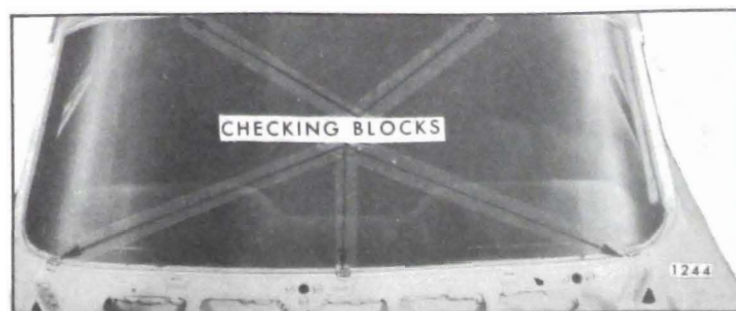

Fig. 3-14—Windshield Glass Checking Blocks
3. Install five windshield checking blocks J-8942 or equivalent (Fig. 3-14) to pinchweld flange at the following locations. Position one block over lower pinchweld flange on each side of body approximately twelve inches inboard from the lower outer corner of the opening. Position one block in center on lower pinchweld flange. Position final blocks on upper pinchweld flange midway between center block and each outboard block on lower retaining flange.